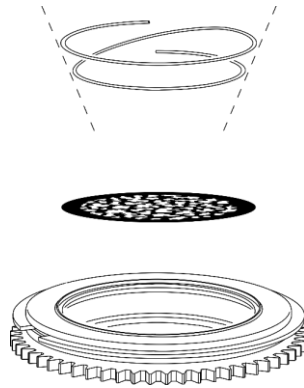

Fig. 15
- 11) Carefully insert the retainer spring with the narrow end against the gobo (see Fig. 15). To identify the narrow end, press the spring flat: the narrow end is on the inside.